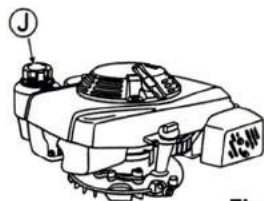

Fig. 10
1. Open Fuel tank cap (J) and refuel gasoline. Immediately wipe off with a rag if gasoline is spilled. (See Fig. 10)
2. Firmly close Fuel tank cap (J) after refueling.